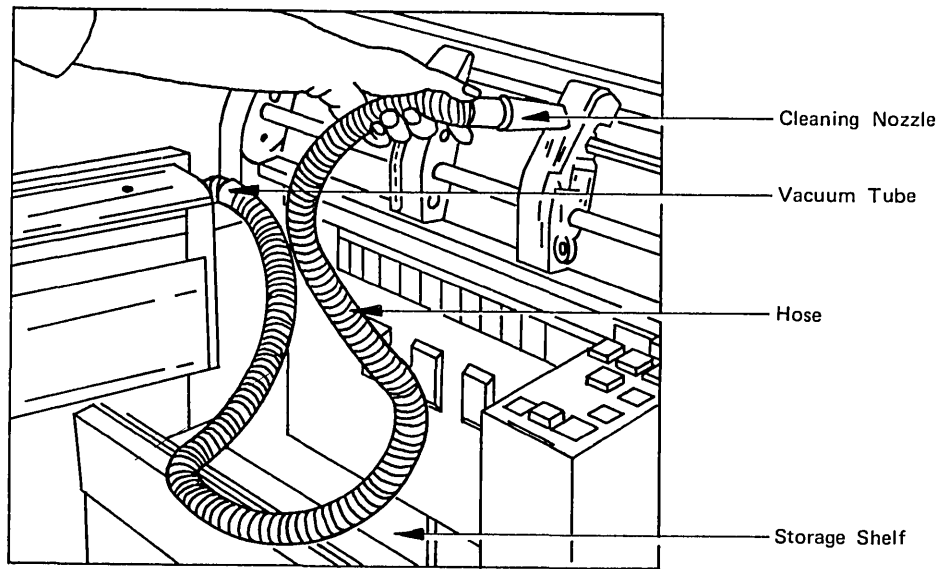

Figure 37. Vacuum Cleaning by Hand
2. Attach the hose to the vacuum tube at the left of the ribbon shield (Figure 37). The vacuum cleaner starts automatically.